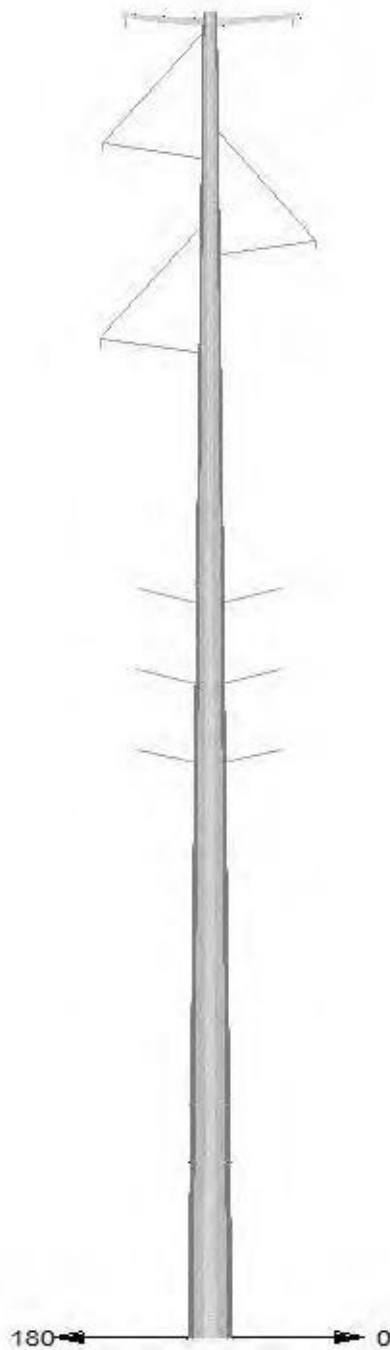

FIGURE G-23
- Figure G-23: Single-Circuit 230 kV Tubular Steel Structure (Pole) with 69 kV Underbuild, Vertical Configuration with Braced Posts